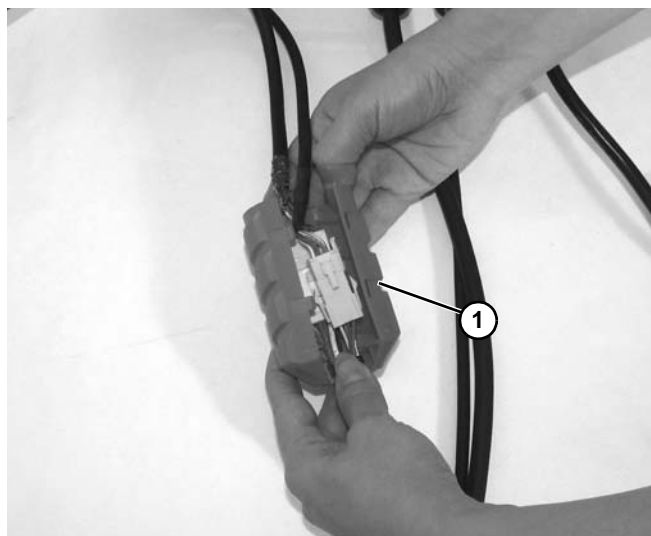

Figure 23
3. Open inner cord cover (Figure 23, item 1).